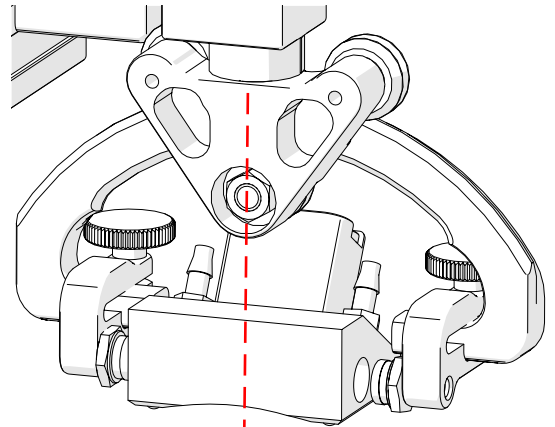

Fig. 209 - Align probe
5. Align the probe to be used with the centre of yoke pivot (Fig. 209).